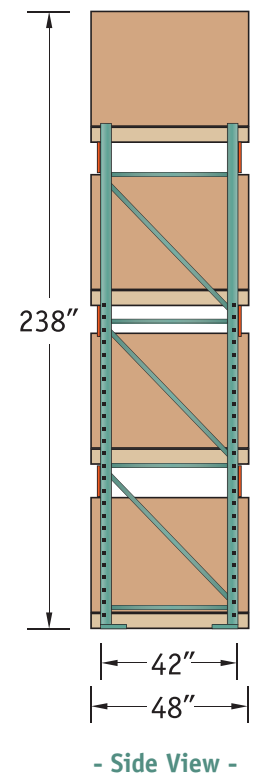

Figure 4.
- Figure out the height of frame needed. This is the measurement from the floor to the top of the top beam. (see figure 4 below). In most applications, you should then add between 6" and 18" (up to the next standard frame size) to allow for flexibility in installation. If the customer wants the frame flush with the top of the top beam, be very sure to check the load dimensions again very carefully and check the floor for the possibility of slope in both the 'cross-aisle' and 'down-aisle' directions.